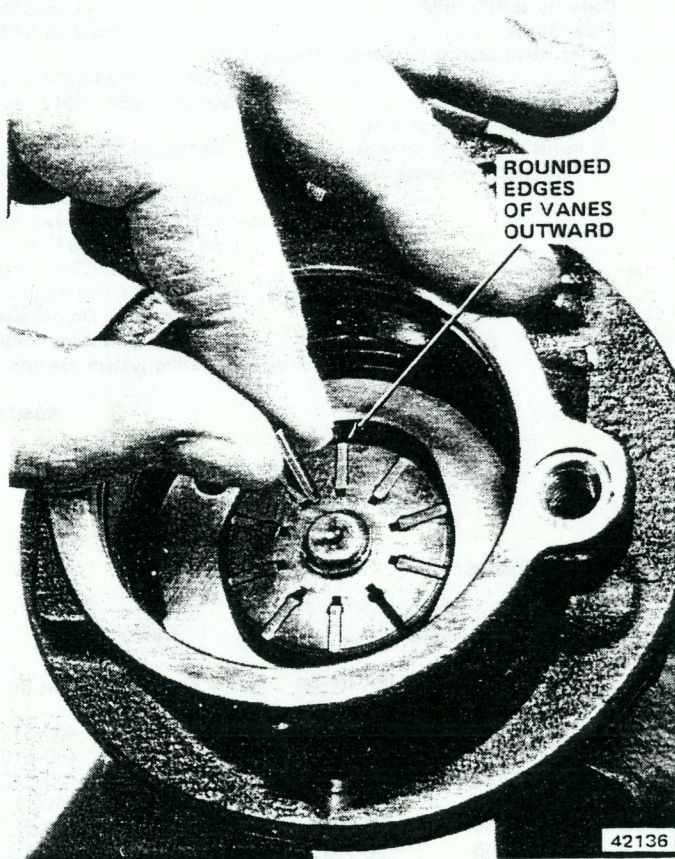

Fig. 2L-60 Rotor Vane Installation
(13) Lubricate remaining end plate O-ring seal with petroleum jelly and install O-ring in second (center) groove in pump body bore (fig. 2L-56).